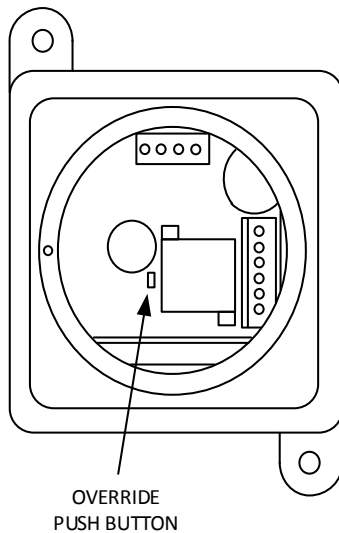

Figure 7.12. X Purge with Cover Removed
While X Purge (see Figure 7.12) is an optional feature, some installations specifying certification require it. X Purge reduces risk by two levels and turns off the analyzer when an alarm occurs.
2. Remove the X Purge housing cover and press the Override button (see Figure 7.12) to apply power to the analyzer.